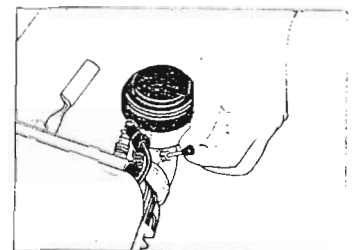

Fig. 4
4. Pull out choke control on carburettor (Fig. 4).